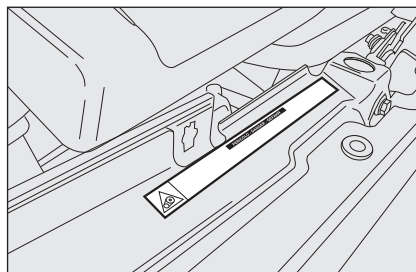

fig. 57
*Before opening the bonnet, make sure that the car is switched off and the key is in the STOP (OFF) position. Follow the instructions on the plate near the front crossmember fig. 57. It is advisable to extract the key when there are other people in the car. Get off the vehicle only after having removed the ignition key or having rotated it to the STOP (OFF) position. When refuelling, make sure that the car is switched off with the key in the STOP (OFF) position.*